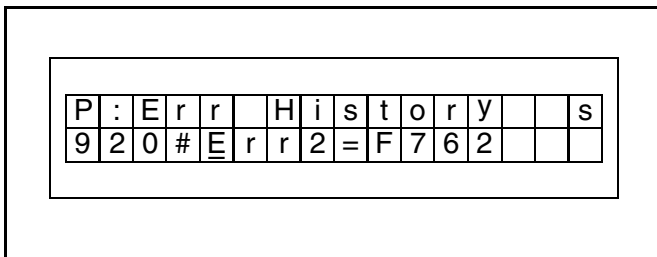
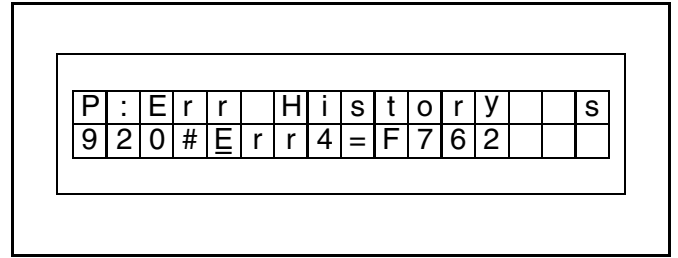

Figure 33
Figure 35
- To scroll through any other errors in the log, press the up (▲) or down (▼) key to cycle through the log. (See Figure 33 through Figure 35.)